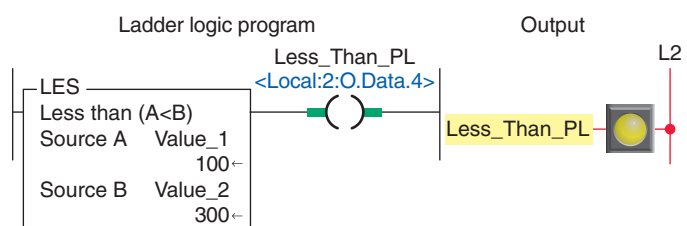

Figure 15-75 LES instruction rung.
The *less than* (*LES*) instruction is used to check if a value from one source is less than the value from a second source. Figure 15-75 shows an example of an *LES* instruction rung. When Source A is less than Source B, the instruction is logically true; otherwise, it is logically false. In this example Value_1 (100) is less than Value_2 (300) so the Less_Than_PL is energized.